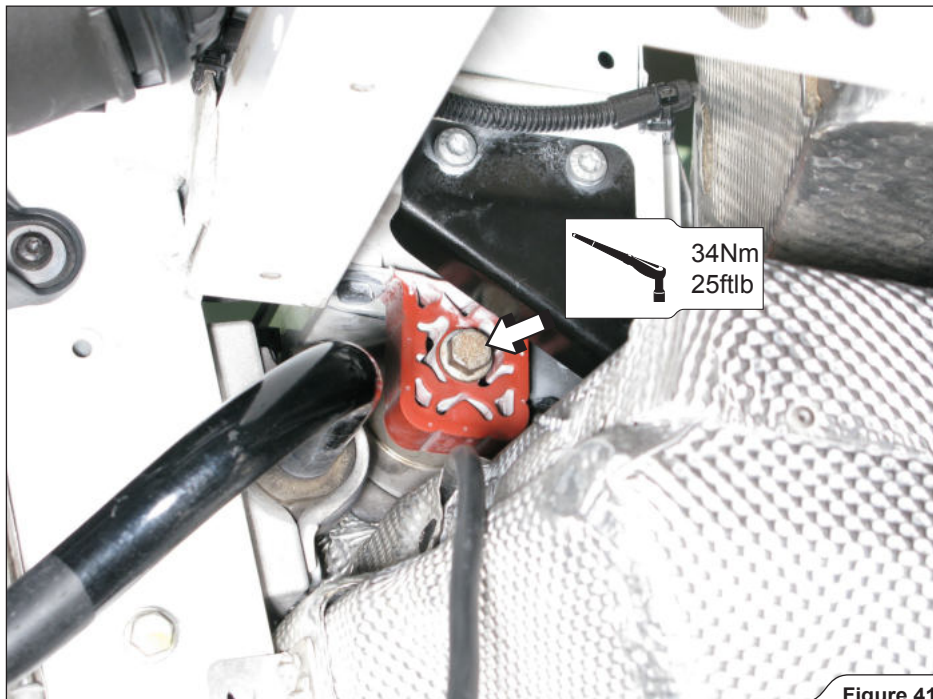

Figure 41
- Carefully attach the assembled muffler onto the chassis, using stock bolts, washers and distance bushes; tighten the bolts to a specified torque (**Figure 41, 42**).